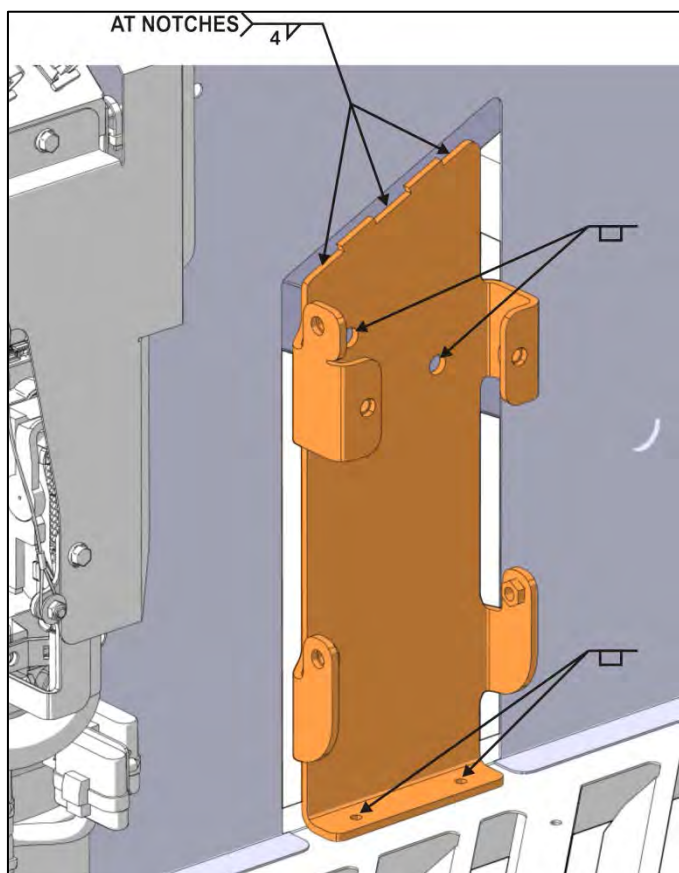

Figure 13: Refer to Appendix C
26. Cut the bracket along the dotted lines (Figure 13)
27. Remove the welds (Figure 13).